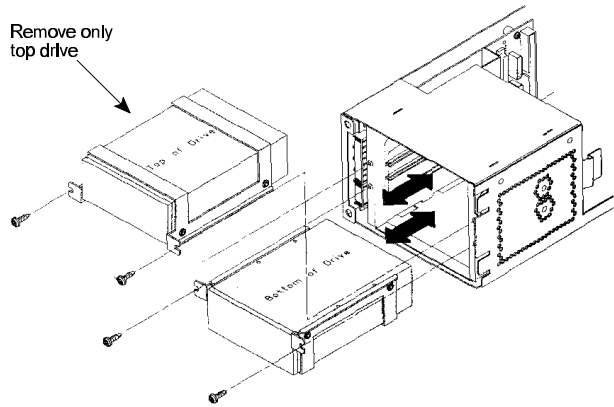

Figure 3
- c. Remove the two screws holding the drive in the storage drawer (top drive only) (figure 3).